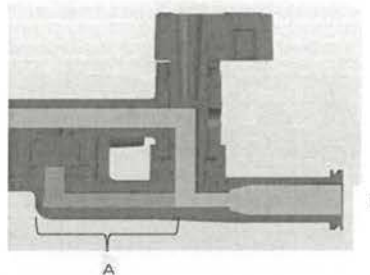

Figure 1: Cross-sectional side-view of the Transducer port of the Pressure
- 1) Attach the male end of the sterile transmission tube to the transducer port. The transducer port is the female luer lock fitting on the lumen from the backside of the transducer and below the Flush Valve. The transducer port is at reference point B of figure 1. Make this connection tight but do not over tighten.
- 3) **Caution: the section of lumen between the underside of the sensor and the underside of the stopcock does not need to be fluid filled. [Refer to section A in Figure 1.]**